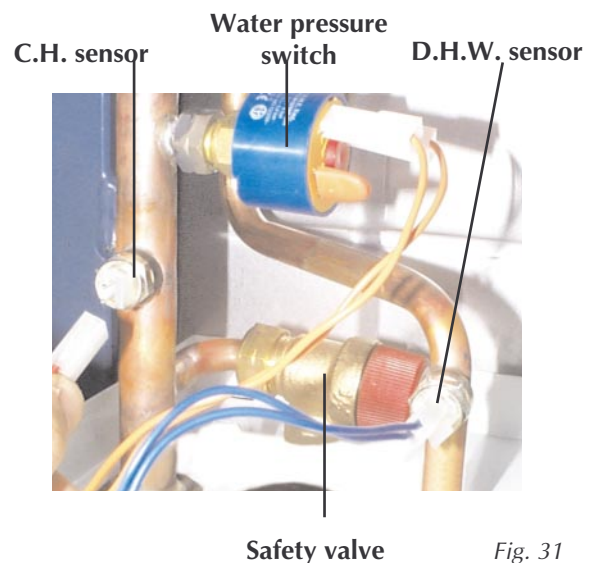

Fig. 31
7.07 D.H.W. temperature sensor or Central Heating Temperature Sensor (fig. 31)
- Identify the sensor from figure 31
7.11 Water Pressure Switch (fig. 31)
- Identify the switch from figure 31
7.12 Safety Valve (fig. 31)
- Identify valve from fig. 31